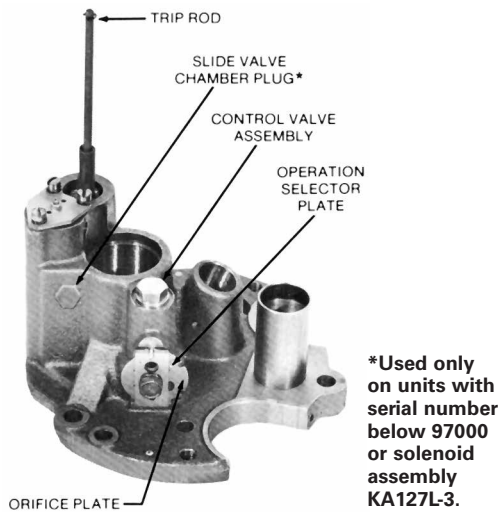

Figure 25. View of hydraulic mechanism
3. With a 1/2-in. wrench, remove the cap screw that secures the operation selector plate, orifice plate, and gasket. See Figure 25.